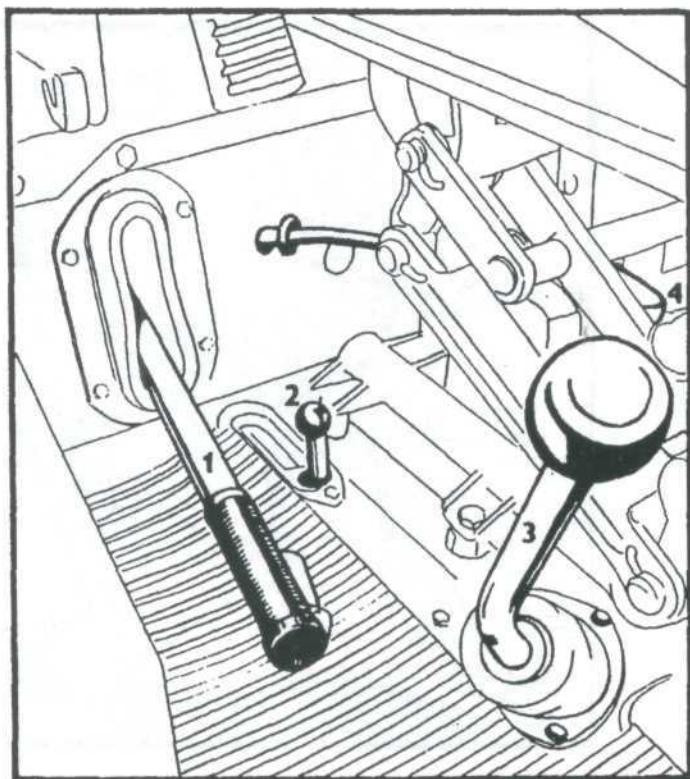
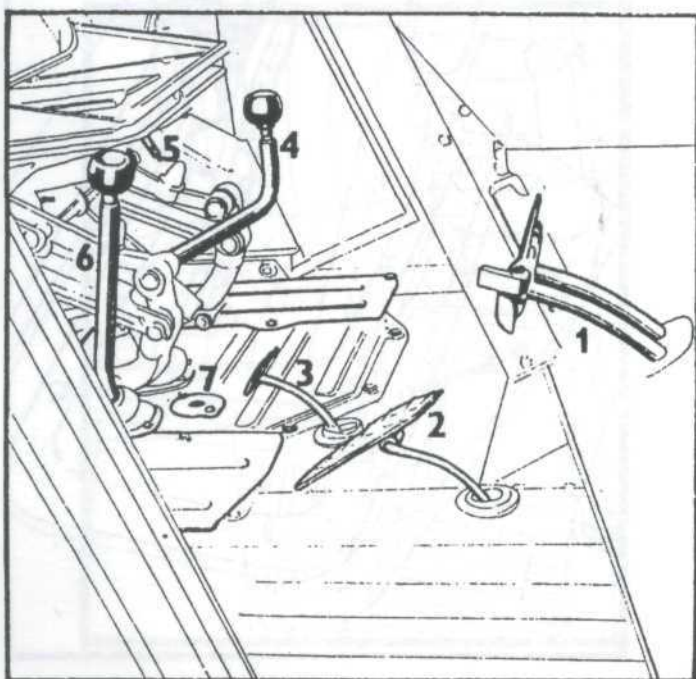

Fig. 4
Fig. 6
- Hand brake lever (Fig. 4/1)
- Shifting lever of dependent and independent PTO revolutions (Fig. 4/2)
- Gear shifting lever of speeds 1, 2, 3, 4 (Fig. 4/3; Fig. 6/6)
- Latched brake pedals (Fig. 6/1)
- Accelerator pedal (Fig. 6/2)
- Rear axle differential lock pedal (Fig. 6/3)
- Road (travel), reduced speeds and reverse gear I, II, R shifting lever (Fig. 6/4)
- Aerolastic seat air filling valve (Fig. 6/5)
- Gearbox and main transmission housing oil filling plug is located underneath the cover on floor (Fig. 6/7) — the plug serves as oil level indicator at the same time